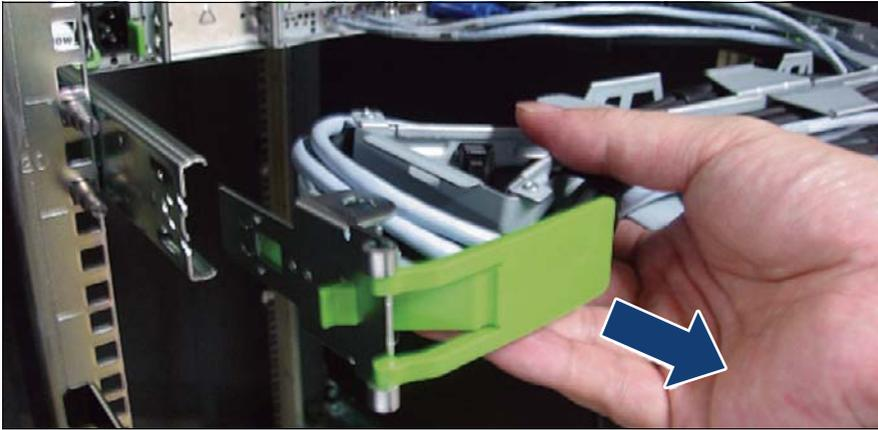

Figure 71: Removing the CMA stopper
- ▶ Remove the CMA stopper with the mounted crossbar (see figure 71).